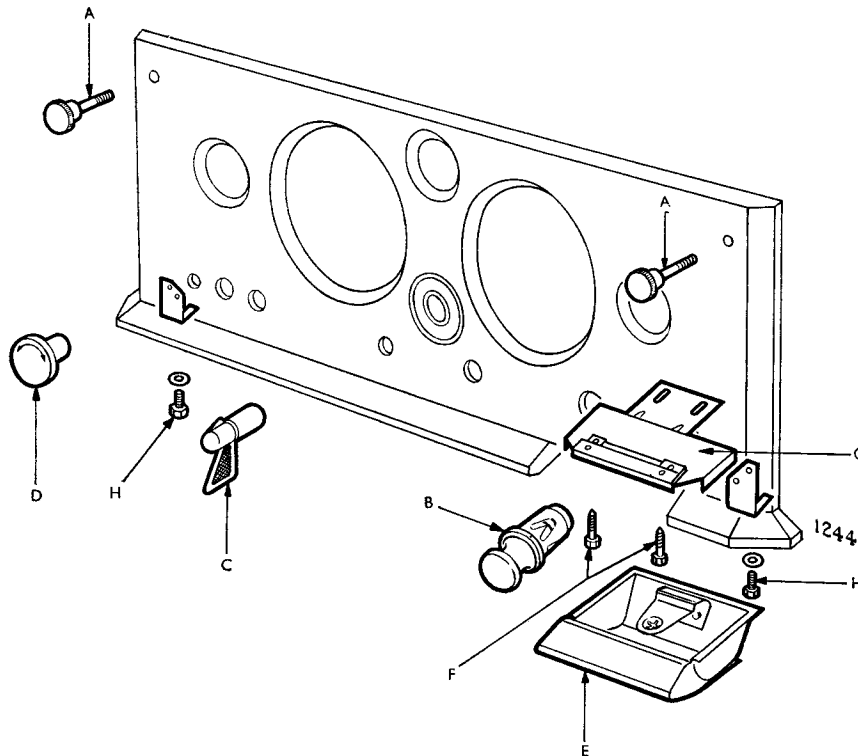

Fig. 1. Removal of centre facia panel.
Remove both thumb screws (A, Fig. 1) from the top of the facia panel. Withdraw the ignition keys and cigar lighter (B). Insert a piece of stiff wire into the hole in the side of the light switch knob (C) to depress the plunger at the same time withdrawing the switch knob.